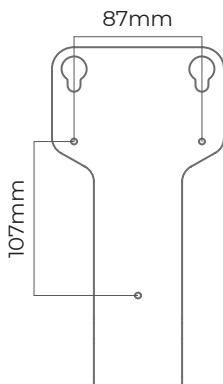

Fig. 5-3
1. Refer to the Fig. 5-3 to understand the dimensions of the wall bracket. Please make sure the space on the wall is at least 3.43" × 4.21" (87mm × 107mm).